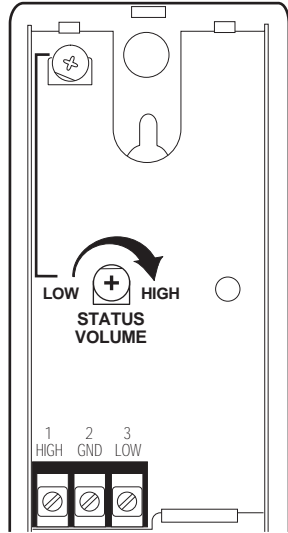

Figure 18. Adjusting the Status Sound Volume
- 1) Locate the status volume pot on the siren circuit board and adjust the status sound volume by turning the pot as indicated on the circuit board (see Figure 18).